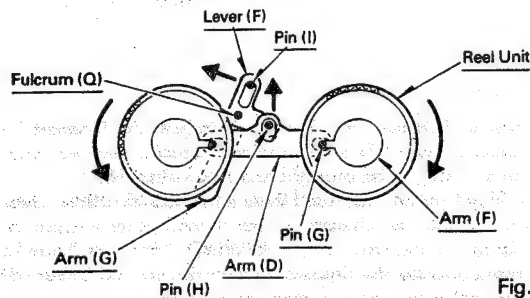

Fig. 9
2. Fulcrum (Q) is secured to the sub-chassis, and Arm (F) rotates together with the Reel Unit around the Reel Unit shaft via felt. Pin (G) is secured to Arm (F), Pin (H) to Lever (F), and Pin (I) to Arm (G), with each pin moving along the oval hole in its mate. With either of the Reel Units rotating, Arm (F) turns through friction. Since Arm (F) rotates either in the same direction or in the outward direction, Pin (H), which is connected to Arm (D) never fails to move upward (Fig. 9). And Lever (F), which is connected to Arm (D) via Pin (H), is thus applied through external force.